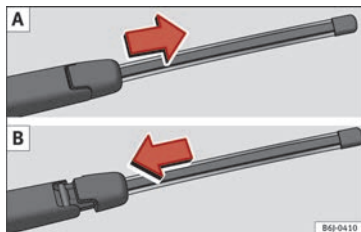

Fig. 171 Changing the rear window wiper blade.
- Slide the blade adapter in the direction of the arrow and remove the blade » Fig. 171 A.
- Place the blade as shown in » Fig. 171 B and slide the adapter along until it engages.